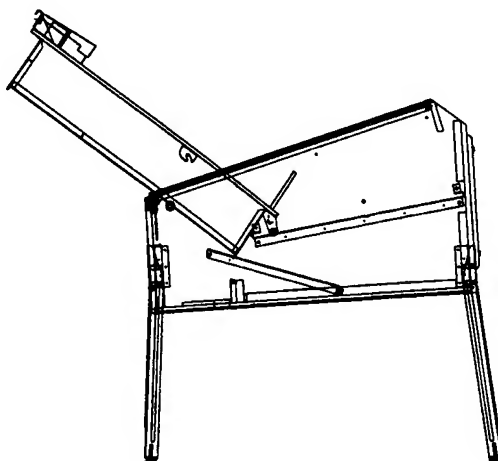

Figure 4
6. Firmly grasp the playfield on the sides and slide it forward (toward you) along the bottom track slide brackets. Do not unplug the cables on the bracket attached to the back of the playfield. Rotate the front of the playfield down and set it on the floor as shown in Figures 4, 5, and 6.